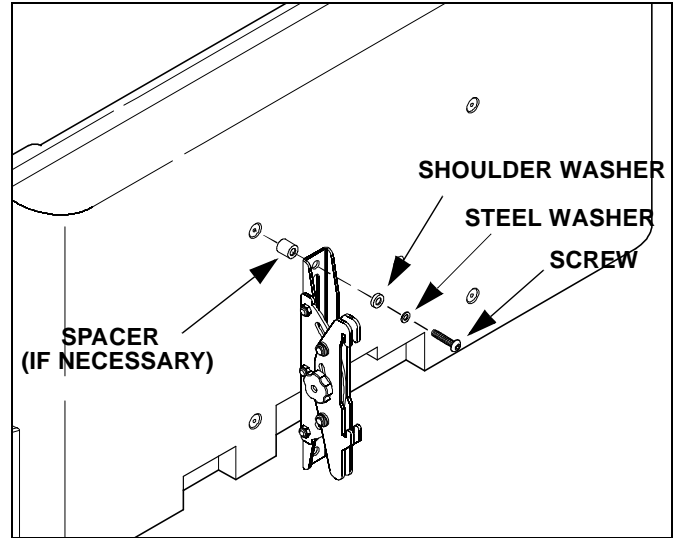
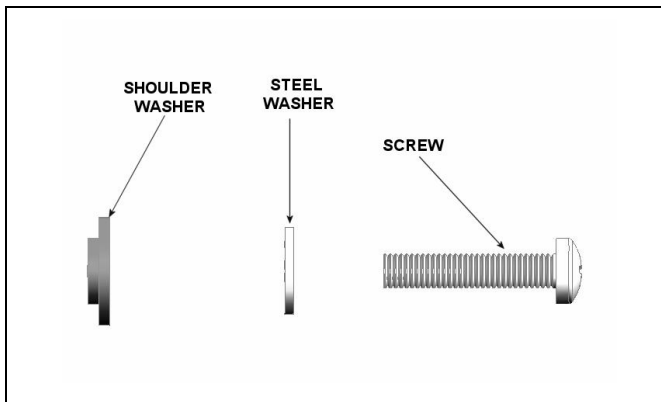
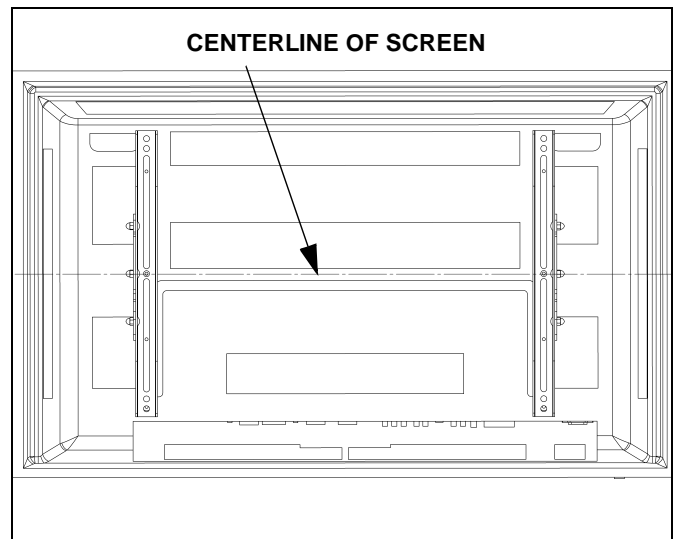

Figure 5
Figure 4
Figure 6
2. Position the interface bracket assemblies (20 and 30) with the tension knob on the tilt bracket faced toward the outside of the display. (See Figure 5)
4. Secure the left and right factory assembled interface bracket assemblies (20 and 30) to the display. Select the mounting hardware that fits your application. (See Figure 4) and (See Figure 5)
- Use M6 screws (70 or 80) or M8 screws (40, 50, or 60), steel washers (160), and shoulder washers (200).
- Or, use M4 screws (120, 130, or 140) or M5 screws (90, 100, or 110) steel washers (150), and shoulder washers (190).
5. Find the center line of the display once again. (See Figure 6)
6. If necessary, remove the attaching hardware and move the tilt brackets as close to the center line of the display as possible. Re-install the tilt brackets onto the interface brackets. (See Figure 6)